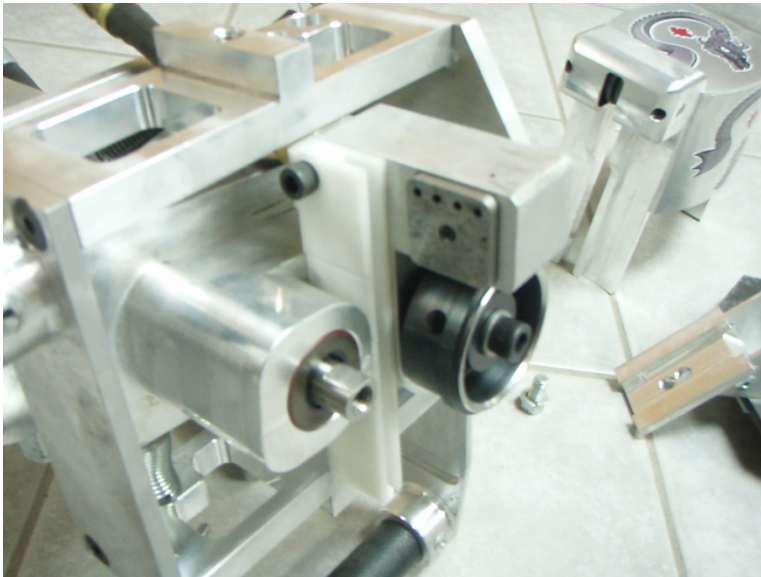

Figure 6
Step 6: Remove water injection plate with the 5/32" allen wrench provided. Note location of water injection holes prior to removing plate. Install new plate with water injection holes matching previous mounted location (outer right side opposite from drive wheel)(figure 6).